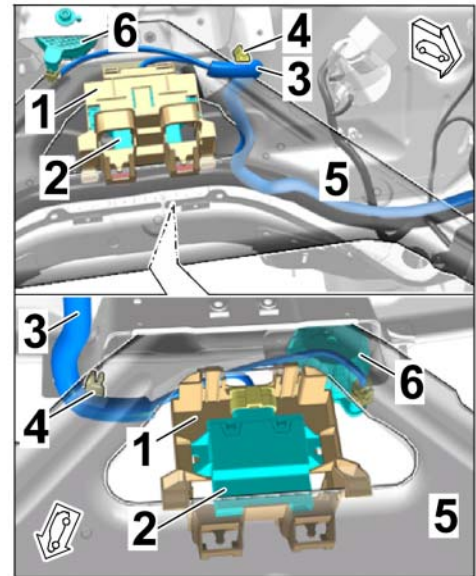

Figure 12
2.3 Remove standard engine noise control unit from control unit holder. ⇒ *Figure 12*